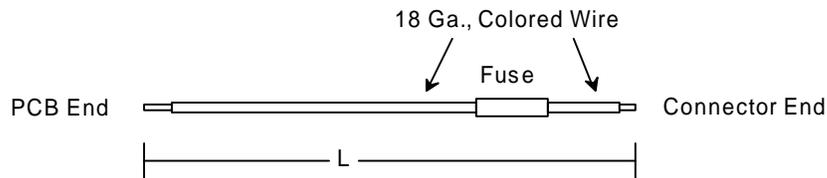

Figure 10. Preparation of Wires for Wire Harness
1. Prepare the wires for the wire harness as shown in Figure 10, using the lengths and colors given in Table 3. Note the following: